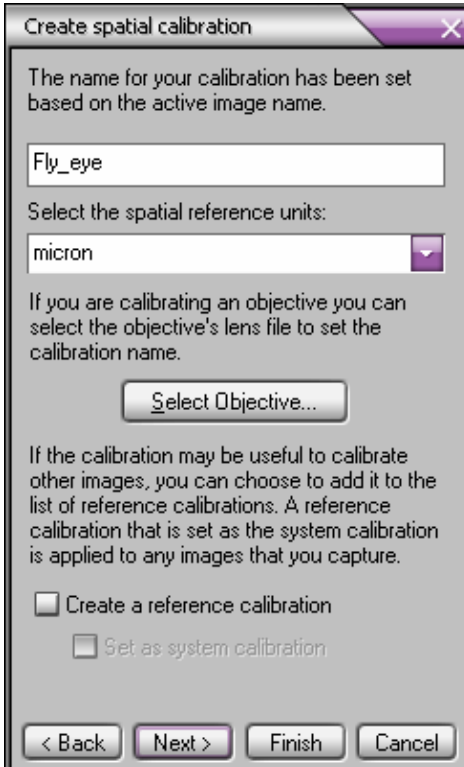

Figure 1. Naming Calibration Files and Assigning Units
- Click the 'Calibrate the active image' radio button. Supply a name and unit for the new calibration (Fig. 1)